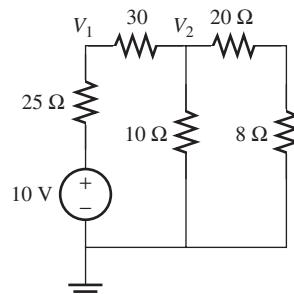

FIGURE P3.34 Circuit for Problem 3.34.
- 3.34 (B)** Find V_1 and V_2 in Figure P3.34.
3.45 (A) Use mesh analysis to find the current through the $8\text{-}\Omega$ resistor in Figure P3.34.